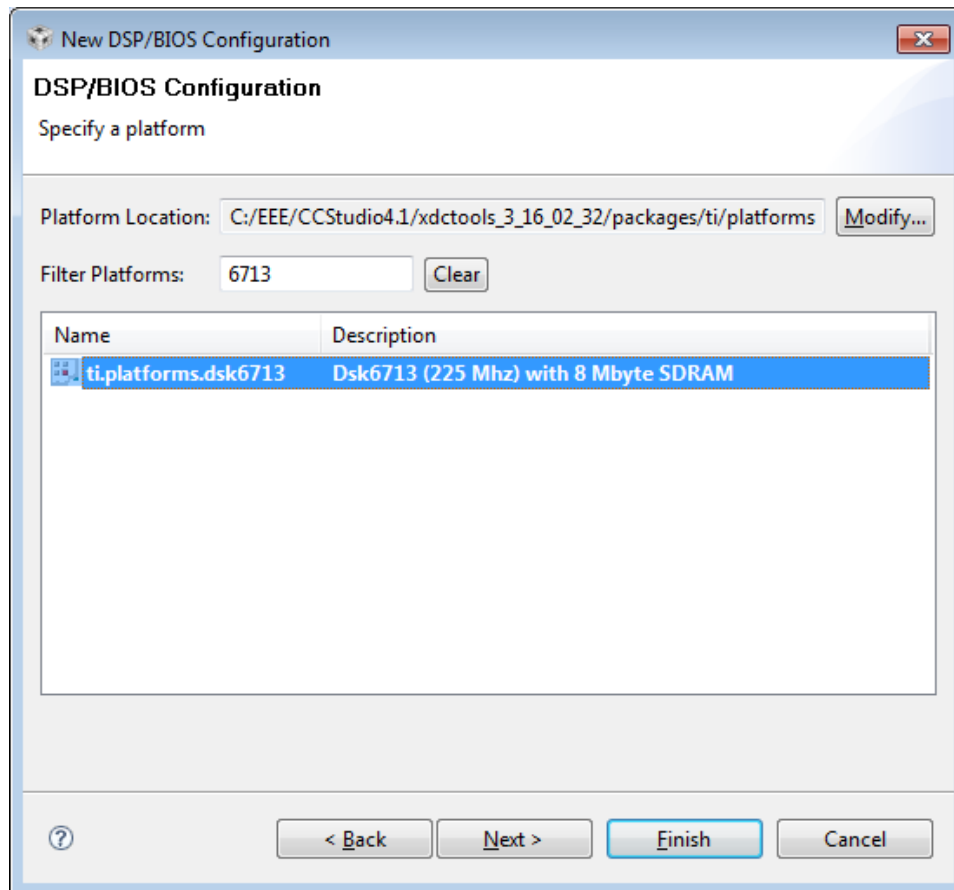

Figure 5: DSP/BIOS
- Figure 5 shows the necessary settings for the next window. Make sure the line with **Dsk6713 (225 Mhz) with 8 Mbyte SDRAM** is selected and hit **Next**.